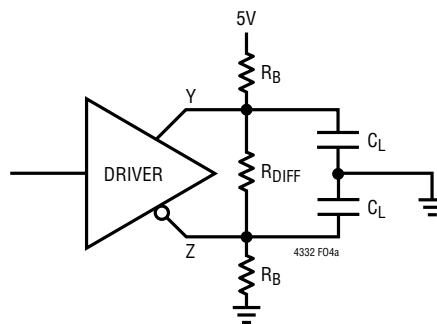

Figure 4. Driver Loading for I_{CC} Measurements
Note 7: Link network with $R_B = 250\Omega$, $R_{\text{DIFF}} = 100\Omega$, and $C_L = 150\text{pF}$ from Figure 4 unless otherwise noted.
- IEC 61000-4-2 Edition 2.0 2008-12 ESD Level 3: ±6kV contact (A, B, Y, or Z to GND, direct discharge to bus pins with transceiver and protection circuit mounted on a test card with a low impedance ground discharge path from board GND to ESD gun return lead, per Figure 4 of the standard)